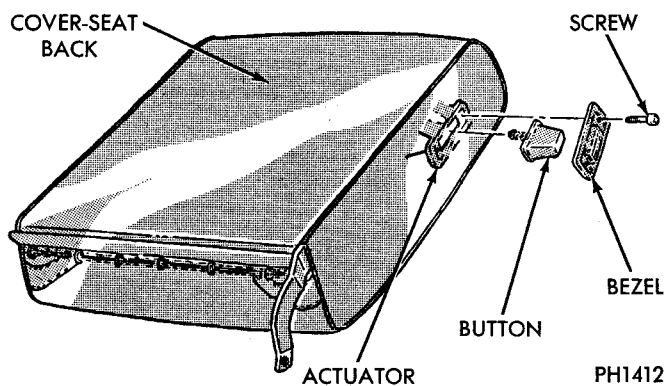

Fig. 6—Bezel and Button from Actuator
- (1) Remove bezel and button from actuator, (Fig. 6).